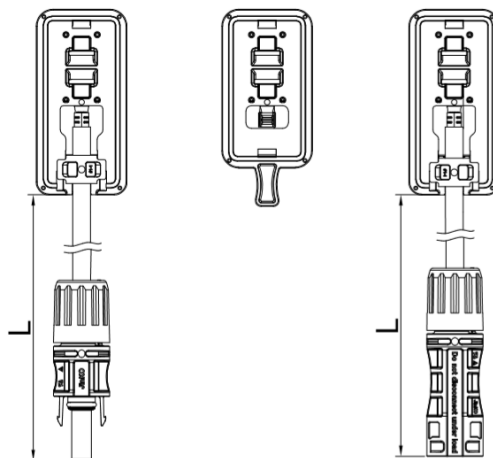

Figure 8 The half-cut cell module/split junction box
- Three split junction boxes (see in Figure 8) with IP68 installed in Jinko modules provide the necessary safety protection for cable and wiring connections, including contact protection of non-insulating electric parts.